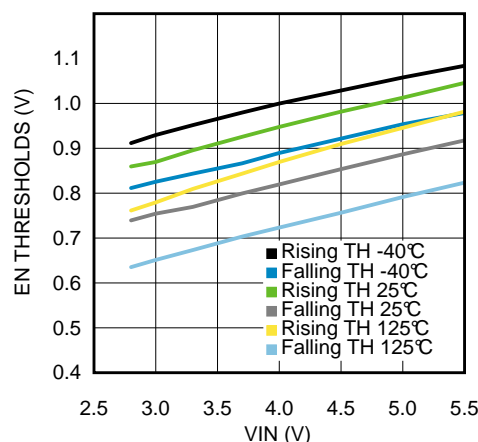

Figure 35. Enable Rising And Falling Thresholds vs. V_{IN}
The LMR70503 features an enable (EN) pin and associated comparator to allow the user to easily sequence the LMR70503 from an external voltage rail, or to manually set the input UVLO threshold. Enable threshold levels are referred to the LMR70503 ground, instead of the lowest potential: the negative output voltage. Enable turning on (rising) and turning off (falling) thresholds are shown in Figure 35.